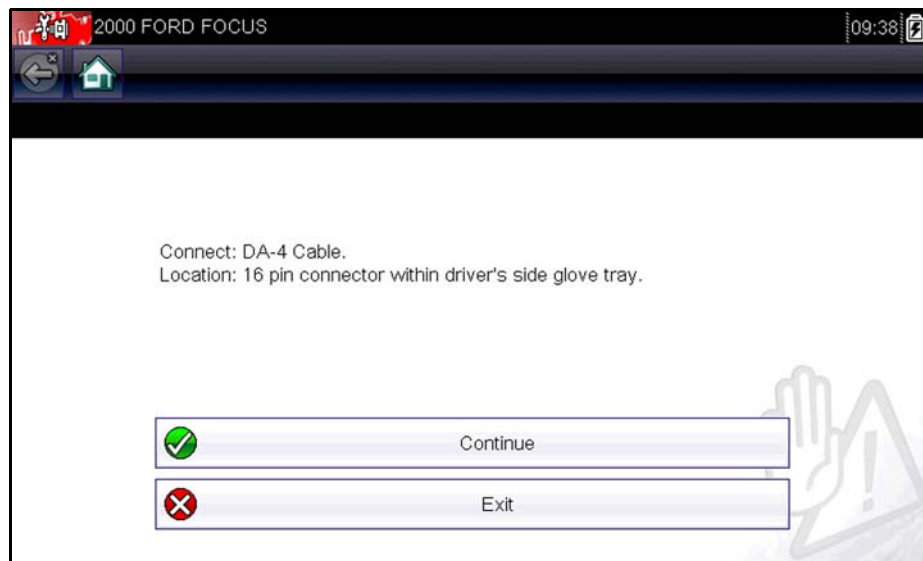

Figure 5-4 Sample vehicle connection message
Make a selection from the systems available for testing list and instructions for connecting the Scanner to the vehicle with the data cable are shown on the screen (Figure 5-4).
1. Follow the on-screen instructions for connecting to the vehicle (Figure 5-4).